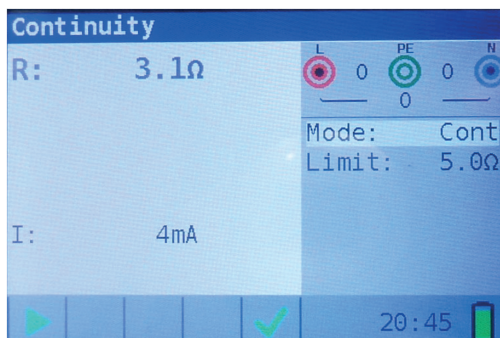

Figure 7.1: Last results
Step 1 When the measurement is finished (Figure 7.1) results are displayed on the screen.